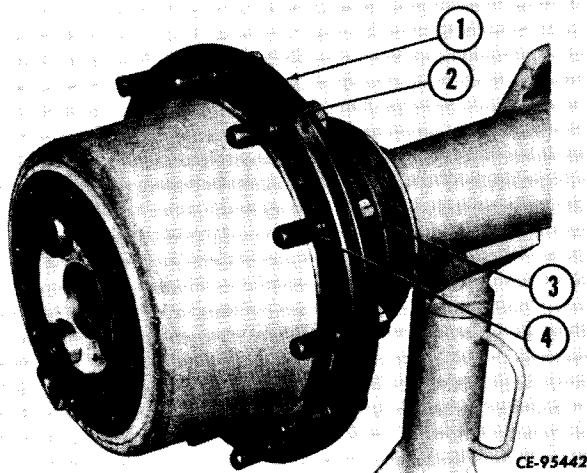

Figure 6-19
Using a suitable sling and hoist, position pinion carrier assembly (2, Fig. 6-19) on ring gear. Install wheel studs (3) through carrier and wheel hub and secure with nuts (4) to recommended torque (refer to "SPECIAL TORQUES").